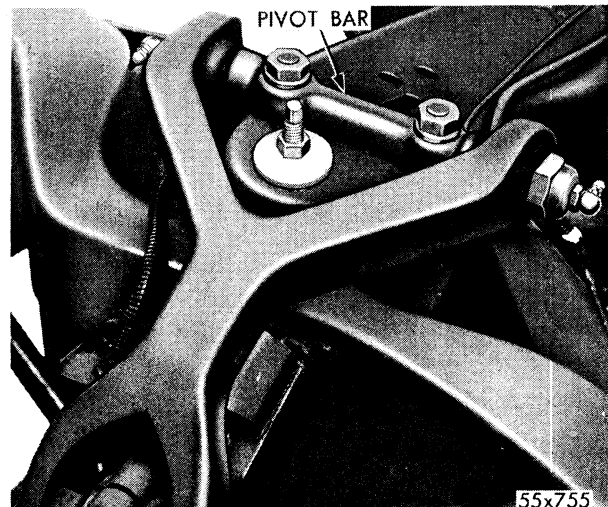

Fig. 4—Upper Control Arm Pivot Bar Installed
3. INSTALLATION OF UPPER CONTROL ARM, PIVOT BARS, BUSHINGS AND DUST SEALS (REFER TO FIG. 4 AND 5)